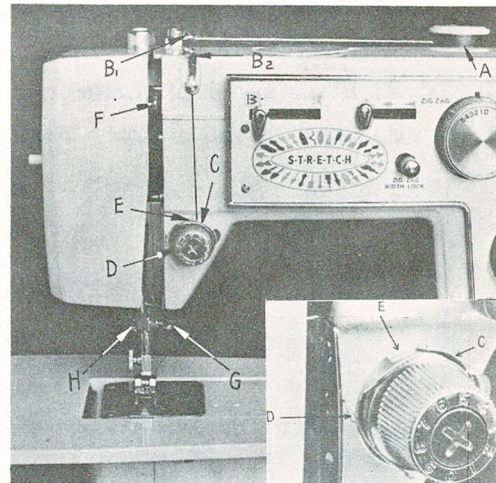

Fig. 10
THREADING THE MACHINE (See Fig. 10 & 11)
- 1) Turn balance wheel toward you to raise take-up lever (F, Fig. 10) to its highest point.
- 3) Lead thread through arm thread guide B1 to B2, Fig. 10.